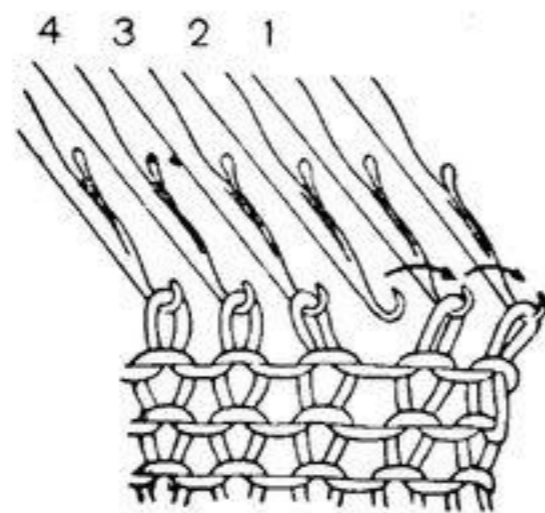

Fig. 37-1
- (b) Using the double eye Transfer Tool transfer the first two stitches so that the first stitch is on the empty needle and the second stitch is on the adjacent needle, (Fig. 37-1) leaving the third needle empty.